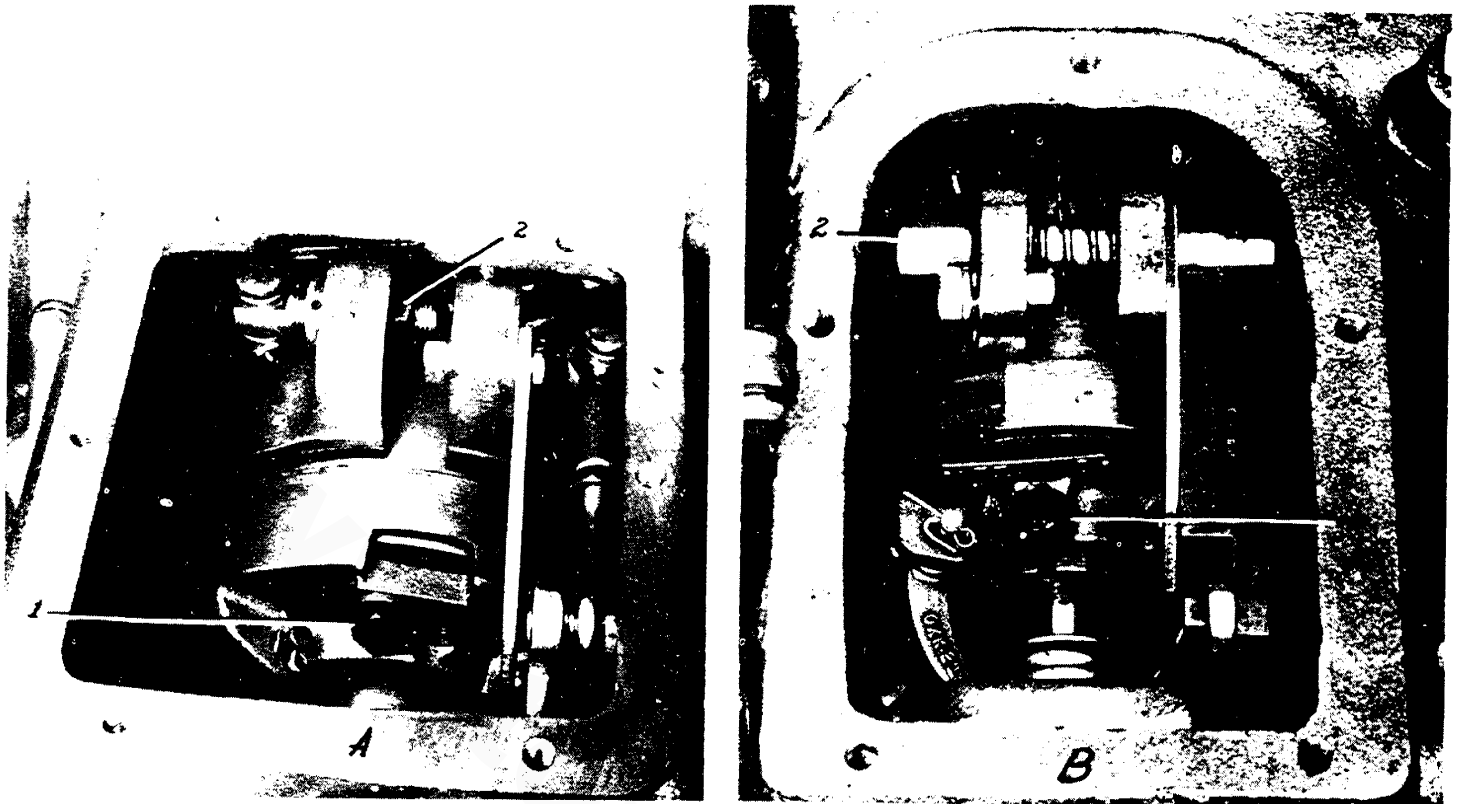

Fig. 74 Reverse Gear - Adjustment - Paragon
(1) Remove the reversing gear cover plate.
(2) Back out lock screw (1) until the end is free of the notch cut in the adjusting collar. See Fig. 74 (A and B).
(3) Turn the adjusting collar clockwise until the lock screw is opposite the next notch in the collar.
(4) Tighten the lock screw being sure that the end of the screw enters the notch in the collar.
(5) Repeat the above process until the clutch does not slip with the engine at full power.
to the reverse position. See Fig. 74 (A and B).